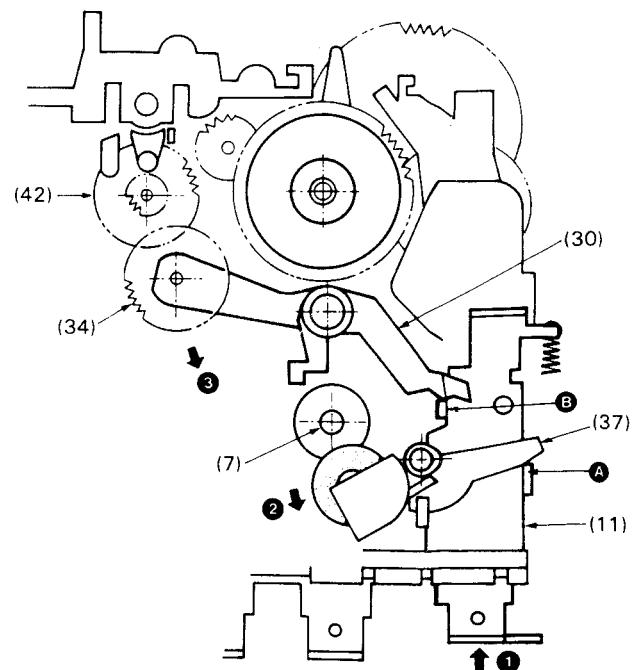

Fig. 14 Pause Operation
8. Pause Operation (See Fig. 14)
- 8-1. When the PAUSE LEVER (11) is pressed (in the direction of ➡ ①), notches A and B press the ends of the PINCH ROLLER ASS'Y (37) and the PLAY ARM ASS'Y (30) to swing them respectively (in the direction of ➡ ②, ③).
- 8-2. The PINCH ROLLER ASS'Y (30) is released from the CAPSTAN (7) and the PLAY GEAR (34) is released from the CLUTCH ASS'Y (42) so that the unit enters the pause mode.